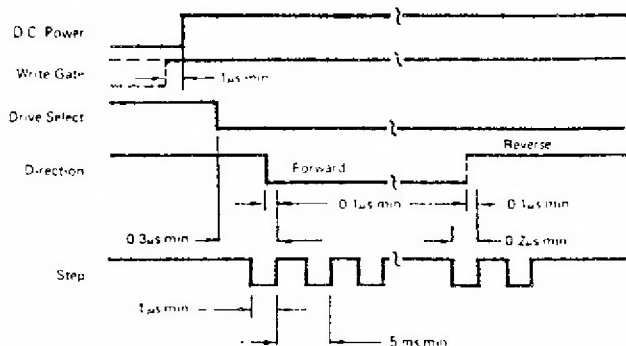

Figure 3-1 Track Access Timing
3.2.5 Direction select The direction of motion of the Read/Write head is defined by the state of this input line. A true (low) level defines direction as "IN" towards center of the disk; a false (high) level defines the direction as "OUT" (see Figure 3-1).
3.2.6 Step Together with the direction line, a single pulse on this input will move the Read/Write head one cylinder in or out, dependent on the state of the direction line. The motion of the head is initiated on the trailing edge of step pulse. A minimum of $0.2 \mu\text{s}$ pulse width at a maximum frequency of 200 Hz should be maintained to assure step integrity (see Figure 3-1).